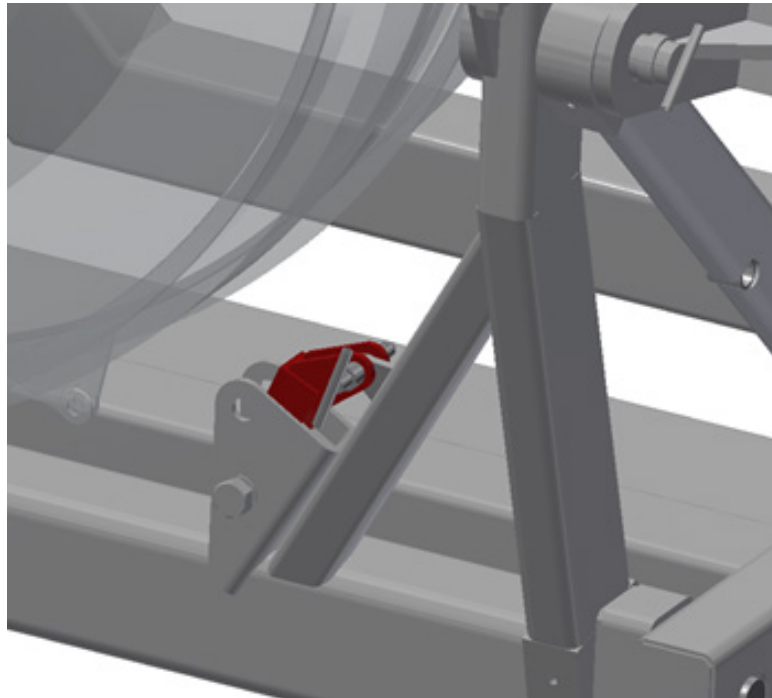

Figure 4.5-6
- 3). Disconnect the aft H3 sway link from the engine, rotate into the storage position and secure. Figure 4.5-6.